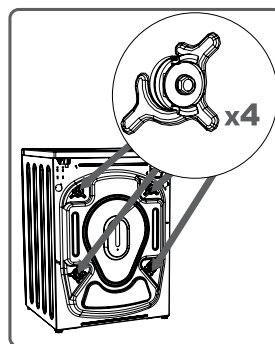

Fig 1
- 1:** Loosen the screws by rotating counterclockwise with a suitable wrench. (Fig 1, 2)